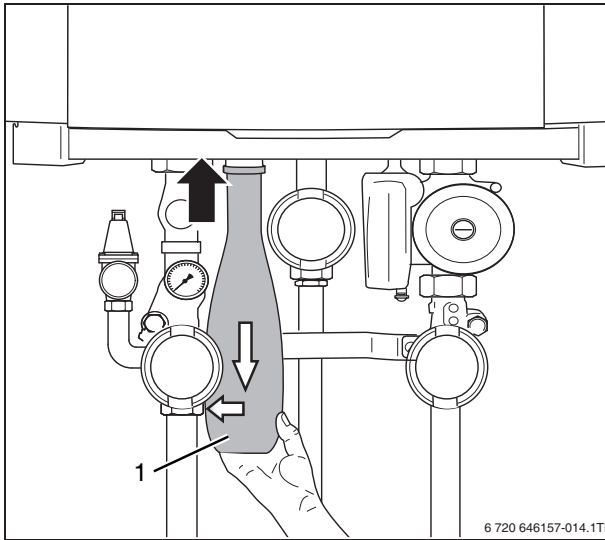

Fig. 14 Installing the condensate trap
- Connect the condensate trap (fig. 14, [1]) to the condensate outlet. The condensate trap has a bayonet connector, insert and turn 1/4 rotation clockwise to click into position.